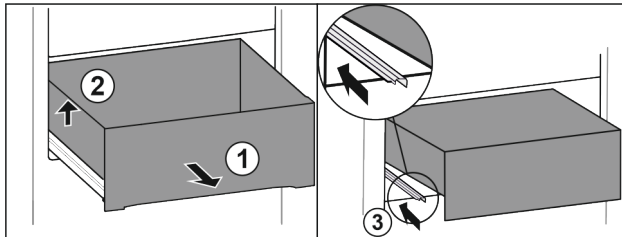

Fig. 126
- Pull out drawer as far as it will go. Fig. 126 (1)
- Lift drawer on the left. Fig. 126 (2)
- Insert left rail. Fig. 126 (3)